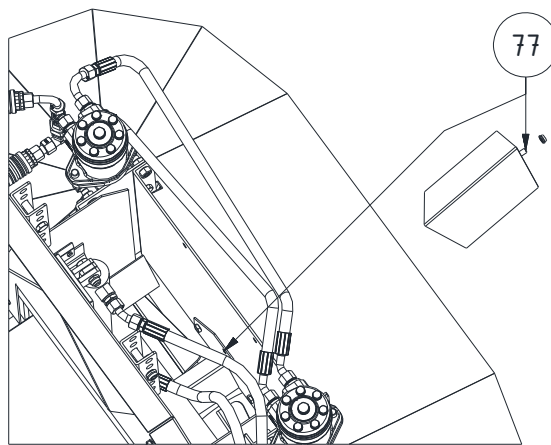

Fig.4: Spreader
- (77) Guide plate (see page 14 Fig. 4)
- When using very moist material and large spreading thickness, the guide plate (77) can be removed from the spreader (using nut M8) (Fig. 4)